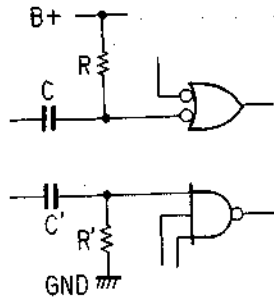

Fig. 2-15
5. The circuit in Fig. 2-15 operates only when the input mode changes from "0" or "1". The gate is operated by the falling edge "1" → "0" in the combination RC, and by the rising edge "0" → "1" in the condition R'C'.